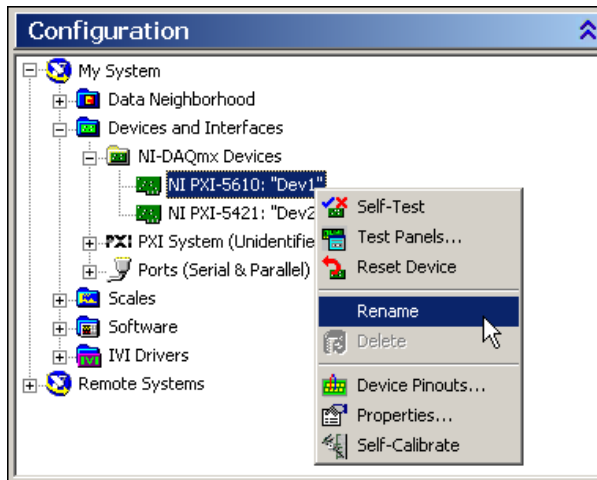

Figure 1-11. Rename the NI PXI-5610 Upconverter Module
4. Right-click the NI 5610 upconverter module and select **Rename** from the shortcut menu as shown in Figure 1-11.